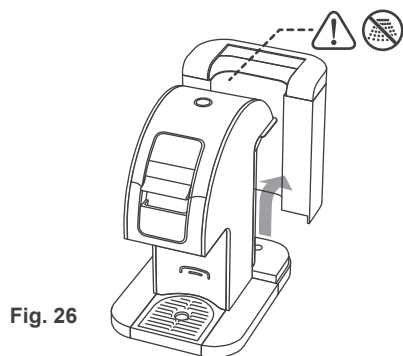

Fig. 26
1. Remove the Water Tank from brewer by tilting and lifting away from the Water Tank away from the brewer. (Fig. 26)